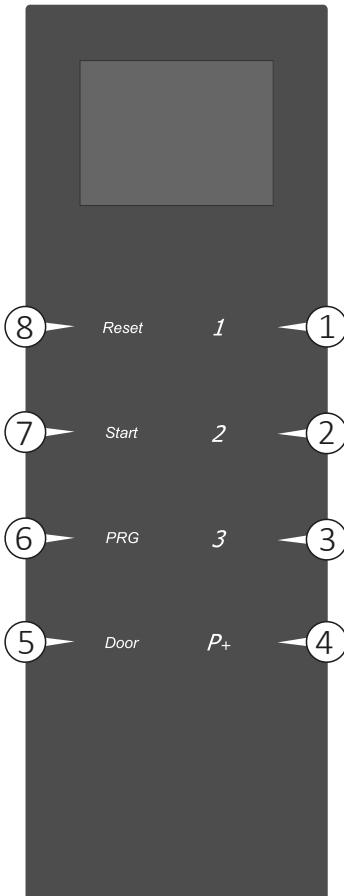

Fig. 17
To select the programs available, use key P1, P2 or P3 (see Fig. 17) depending on the most suitable program for the level of dirt of the load.
- Open the door with the Door key (5 Fig. 17) on the control panel to introduce the basket.
- Close the door and push it until the lock is activated. The door can be unlocked and opened at any time before the program starts, by pressing the DOOR key (5 Fig. 17).
To select the programs available, use key P1, P2, P3 or P+ (to select programs from 4 to 40) on the control panel (Fig. 17).
To start a program, press the START key (7 Fig. 17).
The message «Finish» with a green background on the display indicates that the program has been carried out correctly. Unlock the door by pressing the DOOR key (5 Fig. 17) and open it.
Description of the control panel (Fig. 17):
- 2) With the machine started and door closed, the screen for selecting the programs will appear. Press the selected key (P1, P2 or P3 Fig. 17) on the control panel. To access subsequent programs (if stored), press the key P+ several times.
- 4) Optional: enter the user password: use the key P1, P2, P3, RESET, START and PRG on the control panel to digit the correct password (See Fig. 17 for key description).